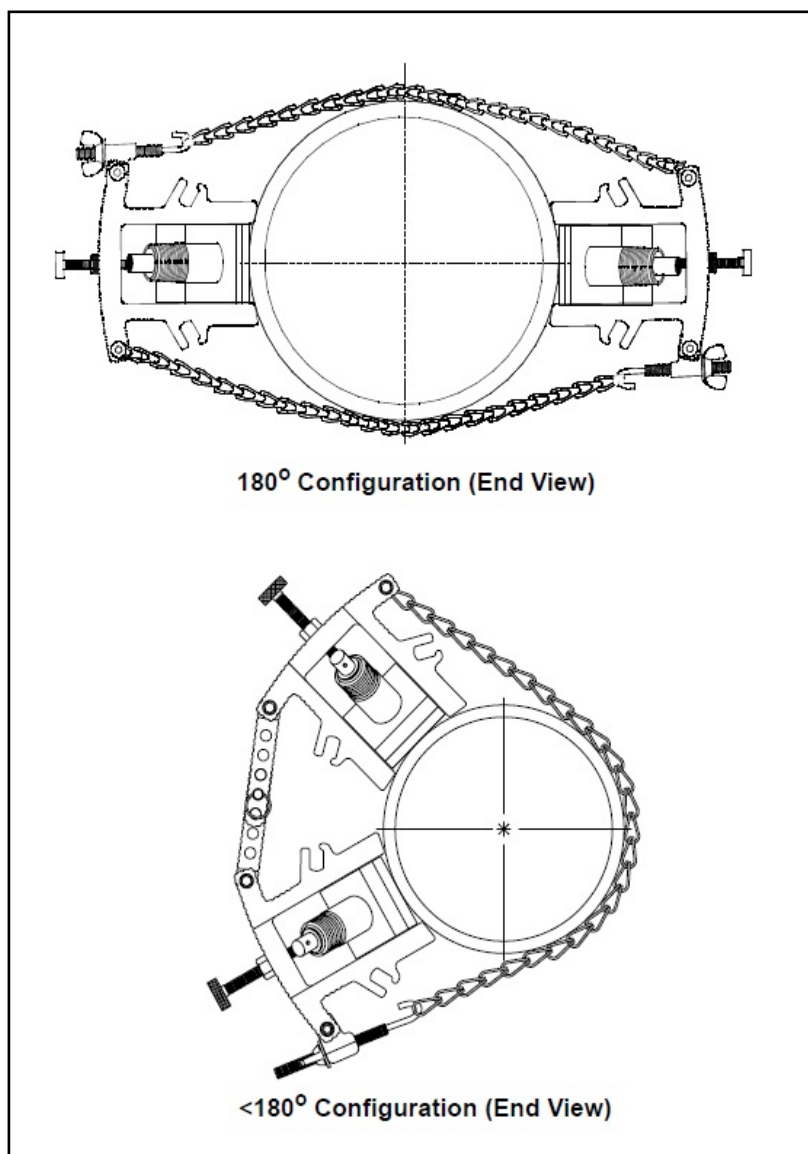

Figure 47: Completed TCMF Installations with Transducers
5. Repeat Steps 1-4 to mount the other transducer in the remaining block. See *Figure 47* on the following page for completed typical TCMF installations.